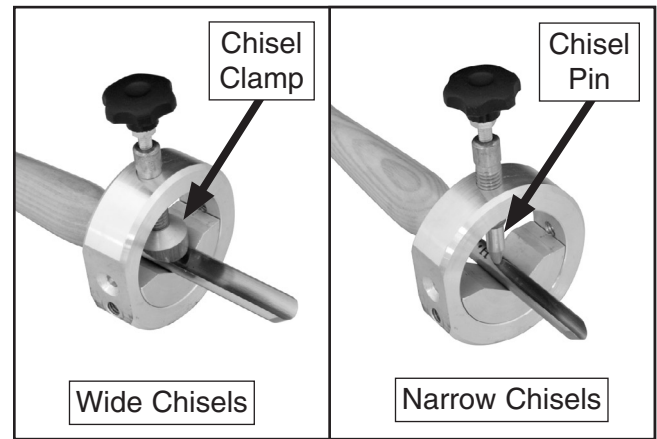

Figure 10. Clamping hollow chisels.
3. Clamp the chisel (bevel-side down) into the jig, as shown in **Figure 10**. No single clamping method works best for all chisels and only trial-and-error with each specific tool will give the best clamping orientation.
Tip: For narrow chisels, use the chisel pin to secure the chisel, as shown in **Figure 10**.